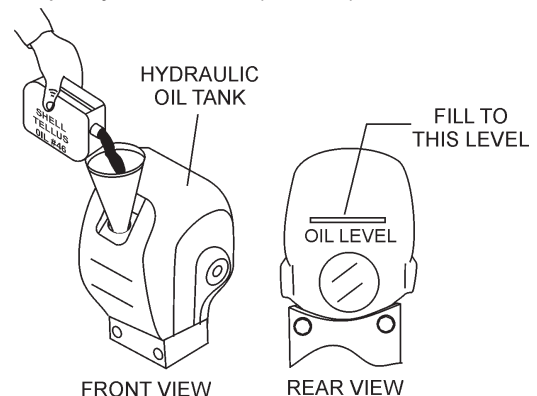

Figure 29. Hydraulic Oil Maintenance
2. Using a funnel, add **Shell Tellus Oil #46** or equivalent to the hydraulic oil tank through the oil filler port (Figure 29). Oil tank capacity is 50.7 fl. oz (1500 cc).